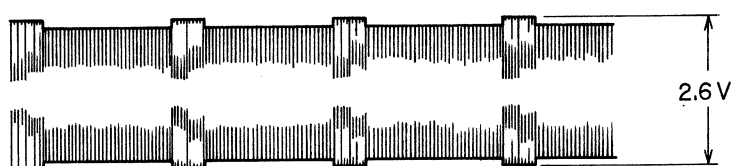

Fig. 1-50 Video Amplifier (PX-504) Waveforms
(1) Modulator Balance Adjustment
- c) Adjust VR-2 and VC-1 so that the forms of the positive part and negative part of the video frequency modulator carrier wave is equal. (ref. fig. 1-50 (b)).
(2) Frequency Deviation Adjustment
- c) Adjust VR-1 so that the frequency deviation of white level is $0.33 \mu\text{s}$ (3 MHz). ref. fig. 1-50 (c).
(3) Carrier Leak Check
(4) Video Recording Level Adjustment
- c) Connect an oscilloscope to heat sink of transistor TR-4005 (2SC968) and measure recording level. (Example of waveform shown in fig. 1-50 (d)).